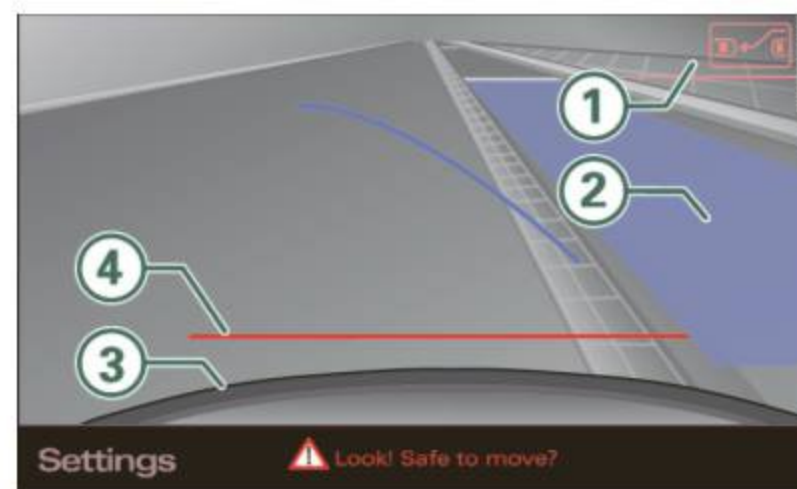
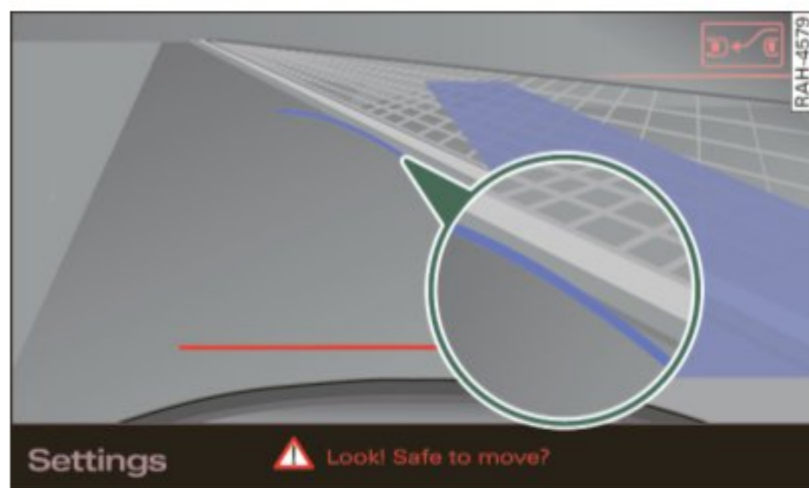

Fig. 167 MMI Display: blue surface in the parking spot
Fig. 168 MMI Display:
- Press the **Mode** ⇒ *page 161*, fig. 167 ① control button on the MMI control console. Parking mode 2 appears.
- Back up in reverse gear and align your vehicle so that the blue area ② borders on the rear end of the vehicle or on the parking spot line. The blue area represents an extension of the vehicle's outline by approximately 16 ft (5 m) to the rear. The long side of the blue area should be on the curb. The entire blue area must fit into the parking spot.
- Back into the parking spot until the blue curve touches the curb ⇒ fig. 168. Stop the vehicle.
- Continue to back up into the parking spot until the vehicle is parked parallel to the curb. ③ marks the rear bumper. You should stop driving in reverse as soon as and no later than when the red orientation line ④ abuts an object ⇒ ⚠! Keep an eye on the front of your vehicle while doing this ⇒ ⚠.
When there is an obstacle (such as a wall) next to the parking spot, choose a spot with more space on the sides. Position the long side of the blue area so that there is sufficient space from the curb. The area must not be on the curb. You will also need to start turning the steering wheel much earlier. There should be a sufficient amount of space between the curb and the blue curve, and the blue curve ⇒ fig. 168 must **not** touch the curb.